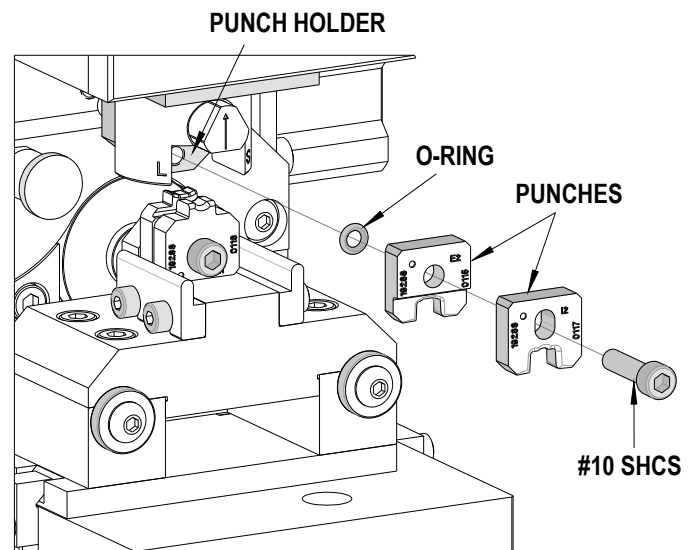

Figure 2-5
3. To remove the punches, use a 5/32" hex wrench to remove the #10 SHCS holding the punches to the punch holder. See Figure 2-5.